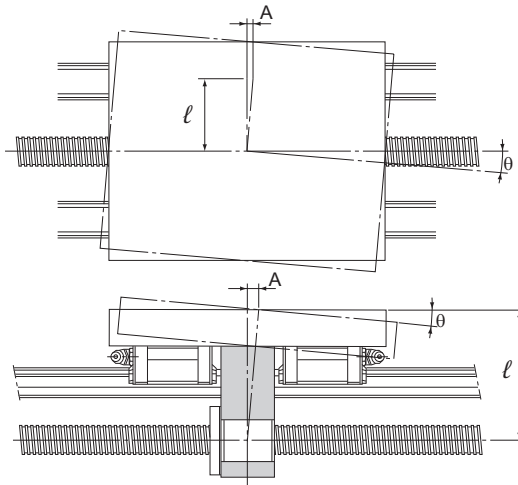

Fig.16
- $\ell$  : Vertical (or horizontal) distance from the ball screw center (mm) (see Fig.16)